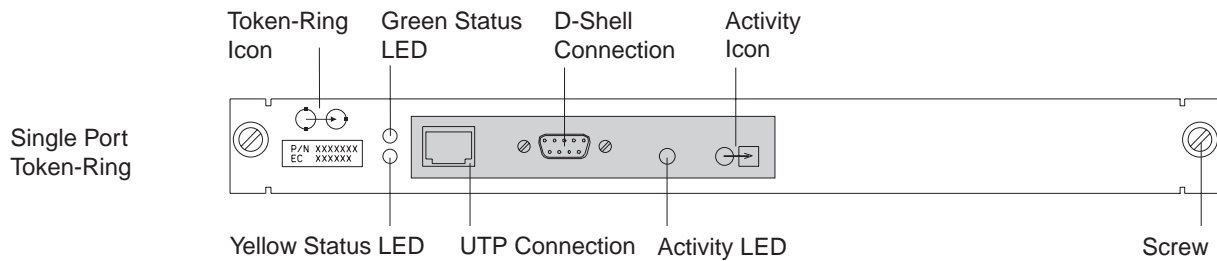

Figure 2-9. Single-Port Token-Ring Attachment Module
- b. \_\_\_\_ Connect cable **A** (PN 6339098) from the D-Shell connector of the token ring module (refer to Figure 2-9 on page 2-9) to the SPAU (8228).